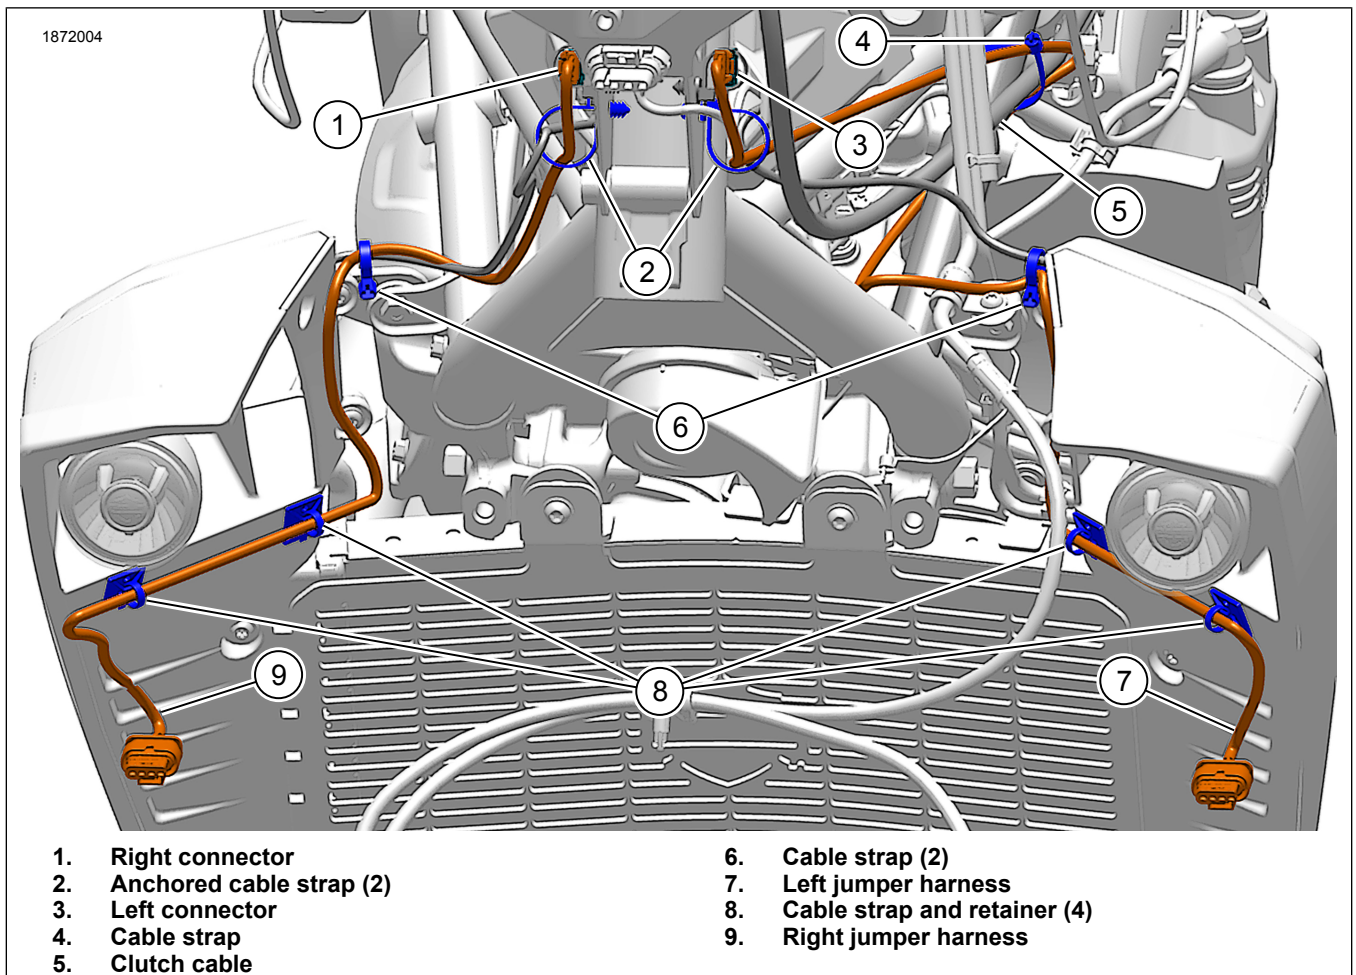

Figure 9. Fog Lamp Jumper Wires
1. See Figure 9. Install fog lamp wire harness.
- c. Install anchored cable straps (2) securing jumper harnesses (7,9) with front turn signal cables.
- d. **Left jumper harness:** Install cable strap (4) securing left jumper harness (7) to clutch cable (5).
- e. Install cable straps (6) securing jumper harnesses with front turn signal cables.
- g. Install cable straps (8).